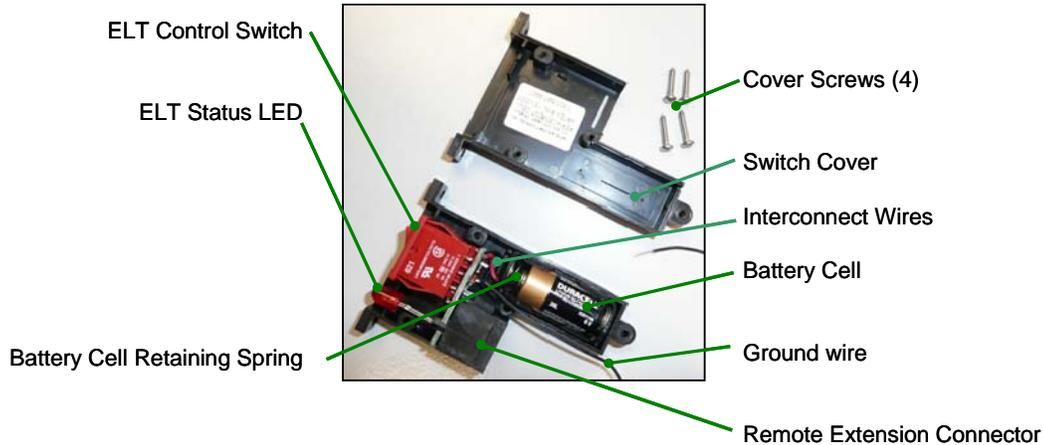

Figure 25-31 Remote Switch Battery Access
1. Referring to Figure 25-31, remove four (4) retaining screws from the remote switch body to access the battery compartment.